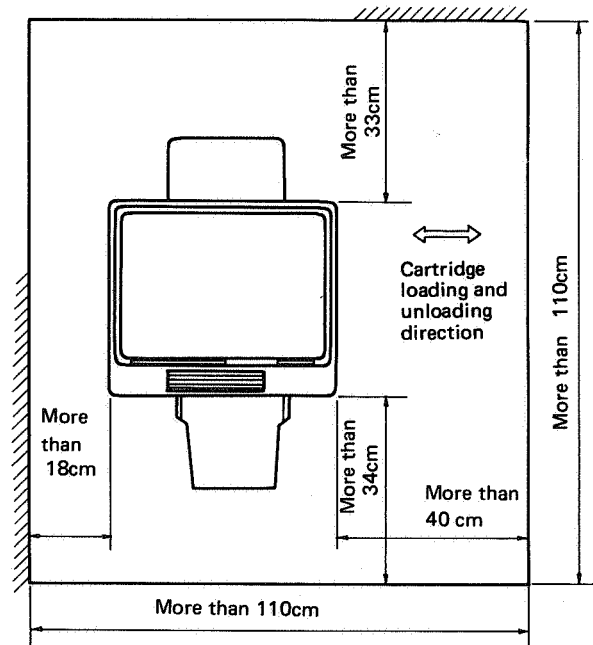

Figure 5-1 Installation space requirements
- The printer should be located at least 17.5 cm (7") from the rear wall. There should be sufficient space to permit unimpeded operation. (See Figure 5-1.)